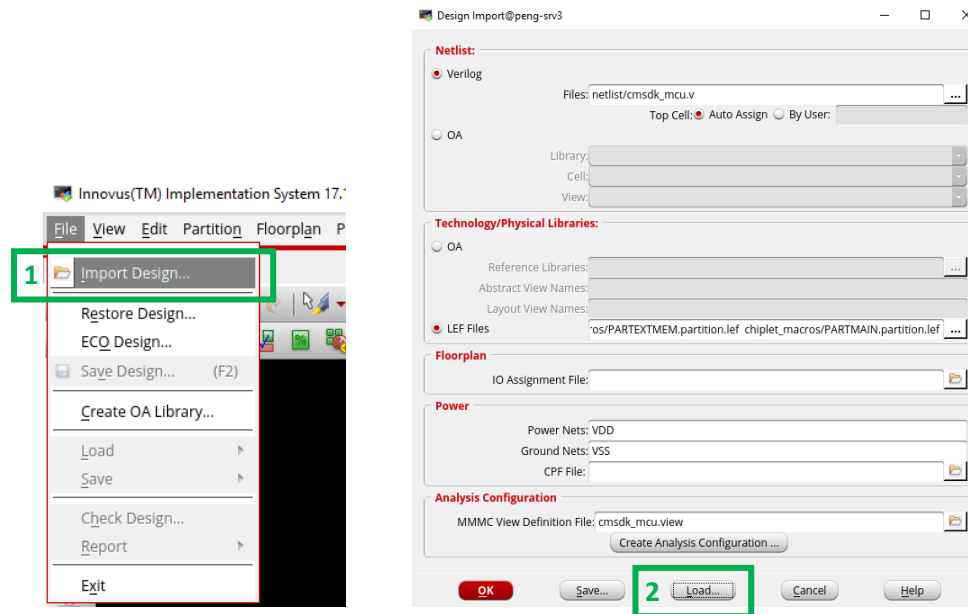

Fig. 1: Loading the design using the `cmsdk_mcu.globals` file
2. Within the Innovus prompt, type “`cd ..`” to come back to the top level directory and follow the steps shows in Fig. 1 to load the design settings using the `cmsdk_mcu.globals` file.